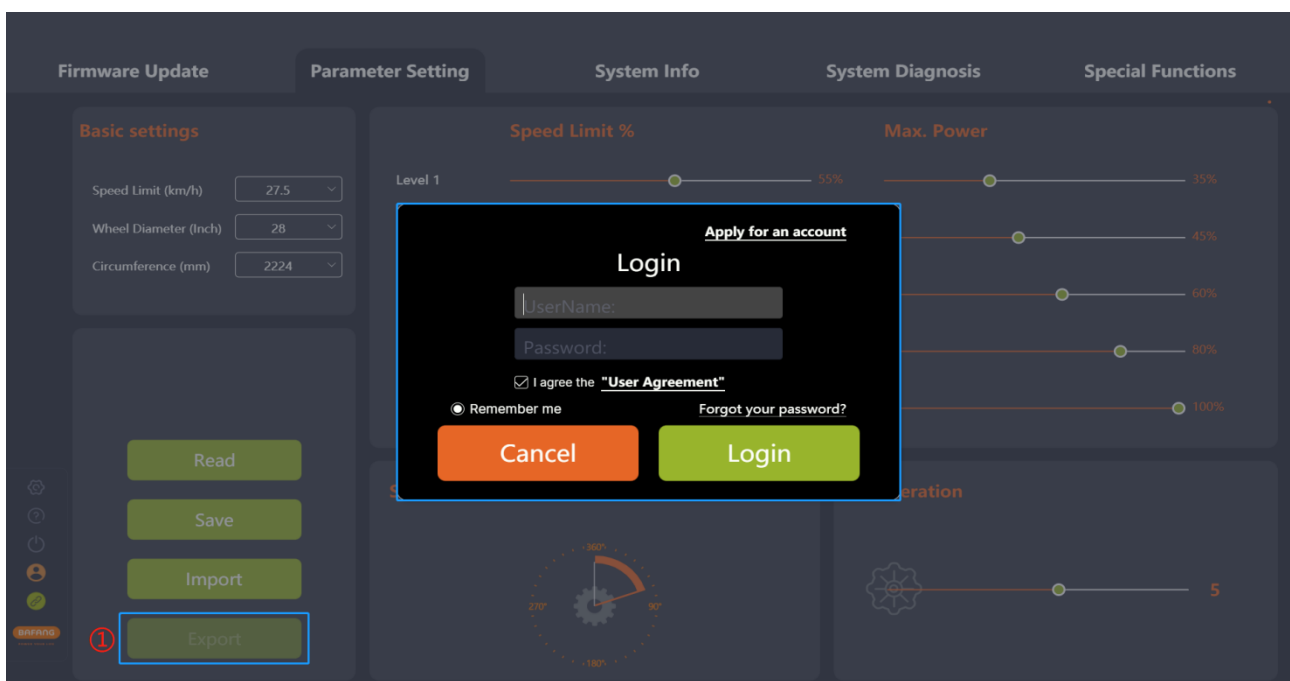

Fig. 5-9 Export
- (1) Click the "Export" icon. If you are not logged in, the login interface will pop up, prompting you to log in (Fig.5-9).